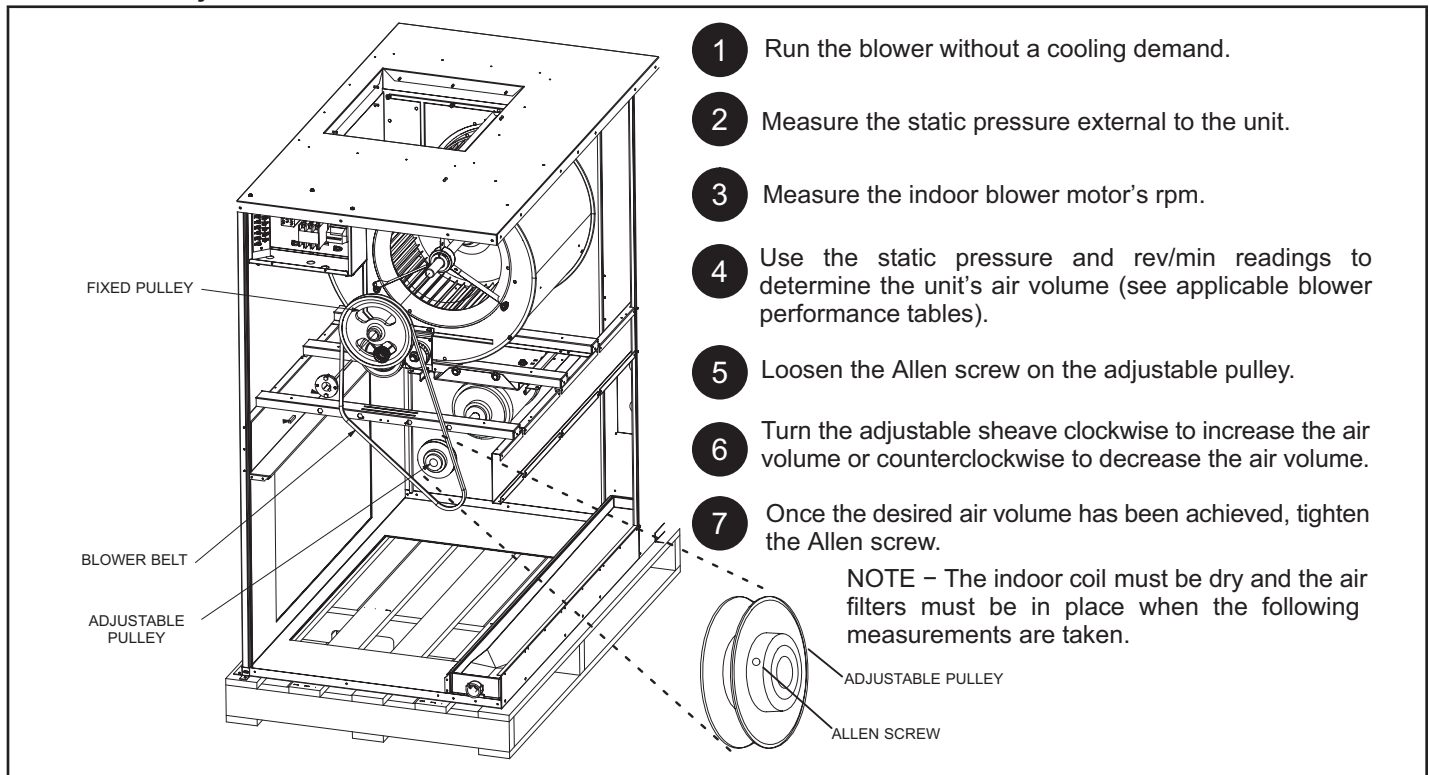

FIGURE 3
- 3 - Check for 24VAC signal at the thermostat blower input (G to GND terminal). See figure 3.